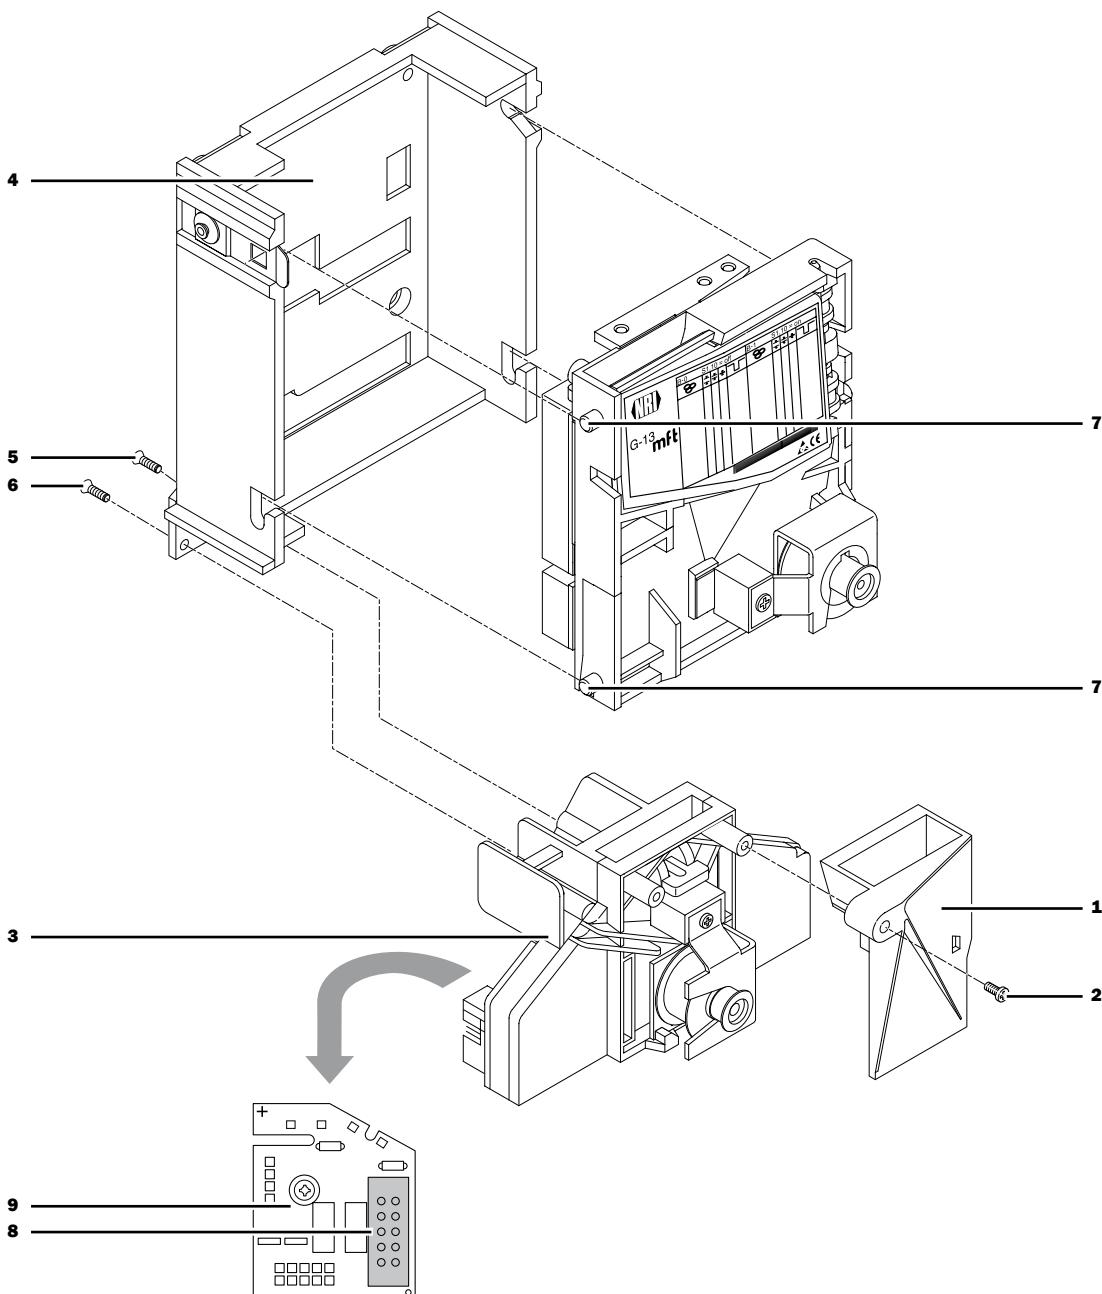

Fig. 9: Attaching s² SSD-3001 to G-13.mft
- 1 If necessary, fasten chute extension [Fig. 9/1] with screw [Fig. 9/2] to sorting device [Fig. 9/3].
- 2 Fasten mounting frame [Fig. 9/4] by means of screws [Fig. 9/5, 6] to the rear of the sorter.
- 3 Hang the coin validator by its mounting studs [Fig. 9/7] in the mounting frame.
- 4 Use the 10-pin sorter plug [Fig. 9/8] on the PCB [Fig. 9/9] and on the rear of the coin validator to connect the sorter to the G-13.mft with the help of the appropriate sorting cable.